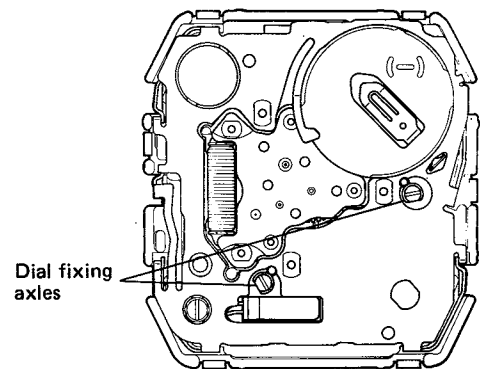

Fig. 5
- 4) The dial is fixed by the dial fixing axles (eccentric) at two areas as shown in Fig. 5. The dial is attached and detached by turning the dial fixing axles with the driver.